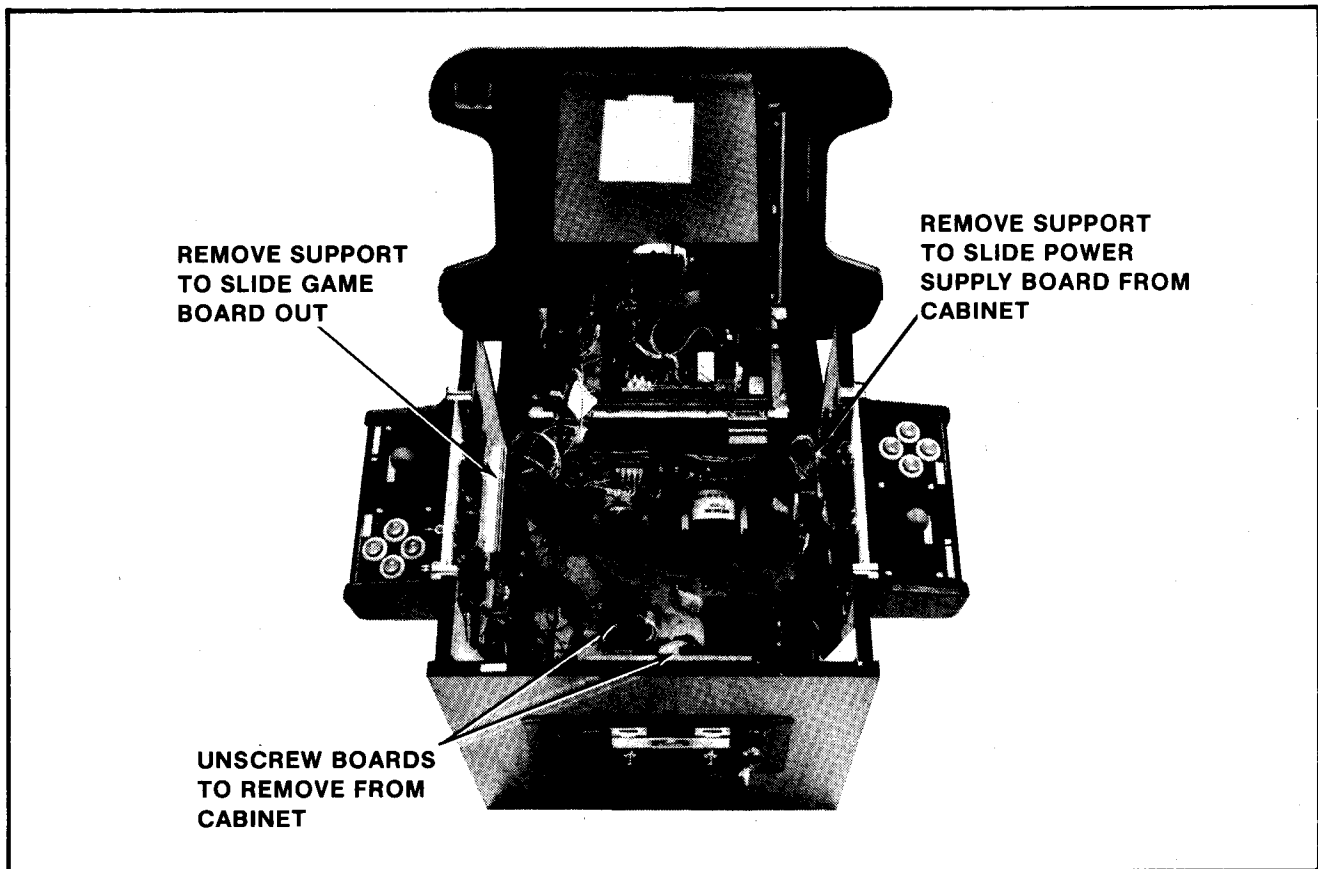

Figure 4-14 Removing P.C.B.s — Cocktail
3. COCKTAIL TABLE MODEL: See Figure 4-14.
- To remove the power supply board. See Figure 4-14.
- To remove the game and Sound boards. See Figure 4-14.